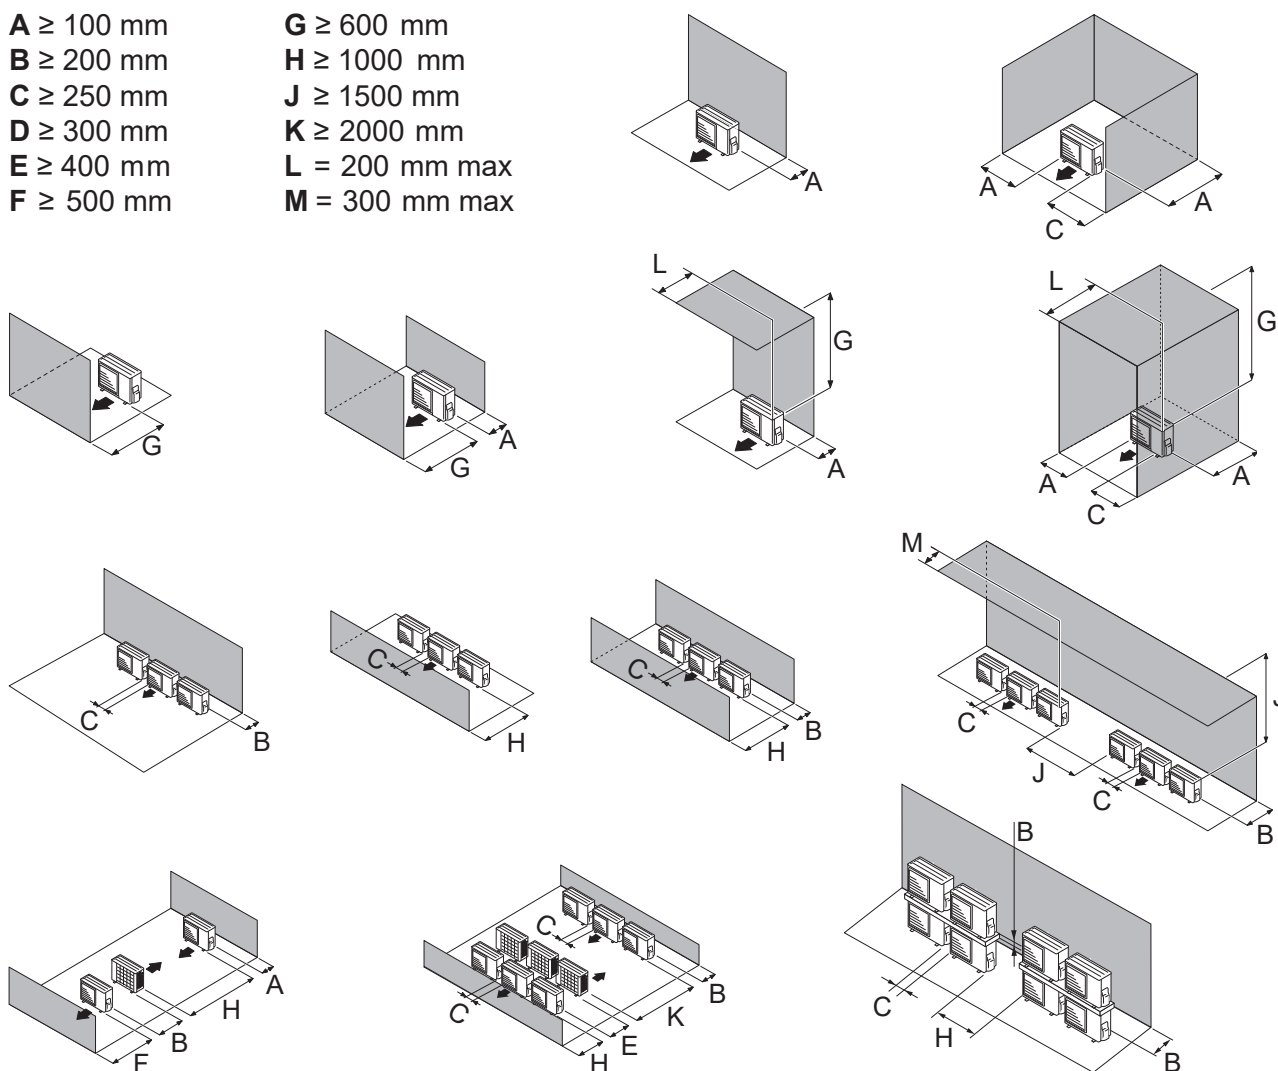
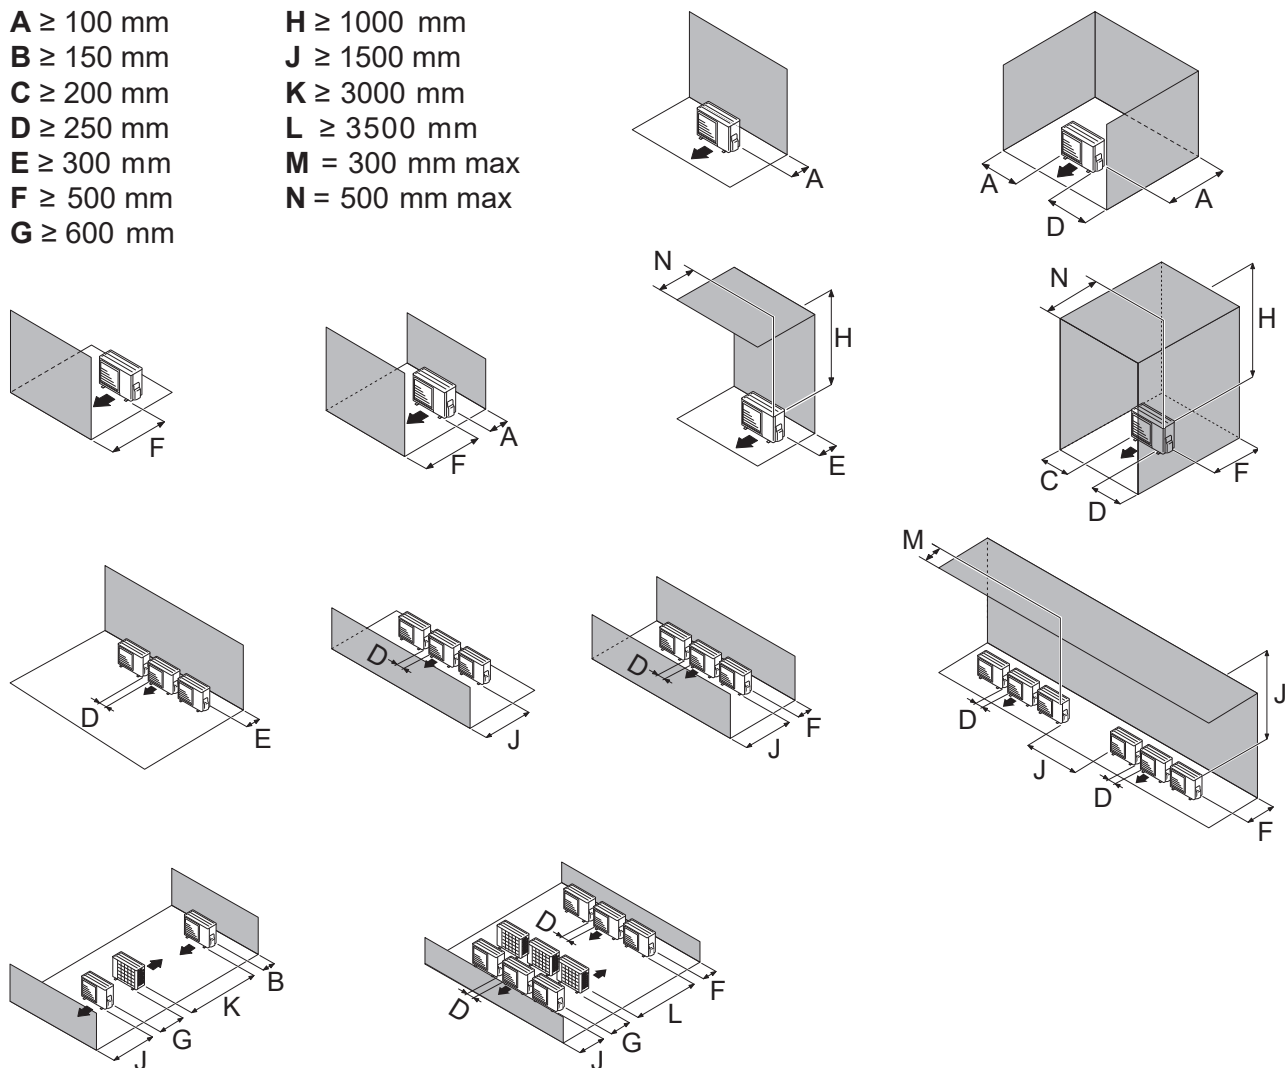

fig. 16 - Minimum installation clearances around the outdoor unit (model 5, 6 & 8)
fig. 17 - Minimum installation clearances around the outdoor unit (model 10)
- The unit must be easily accessible for future installation and maintenance work (*fig. 16 and fig. 17, page 18*).
- Caution should be taken to ensure that there is no obstruction to air circulating through the outdoor unit (*fig. 16 and fig. 17, page 18*).